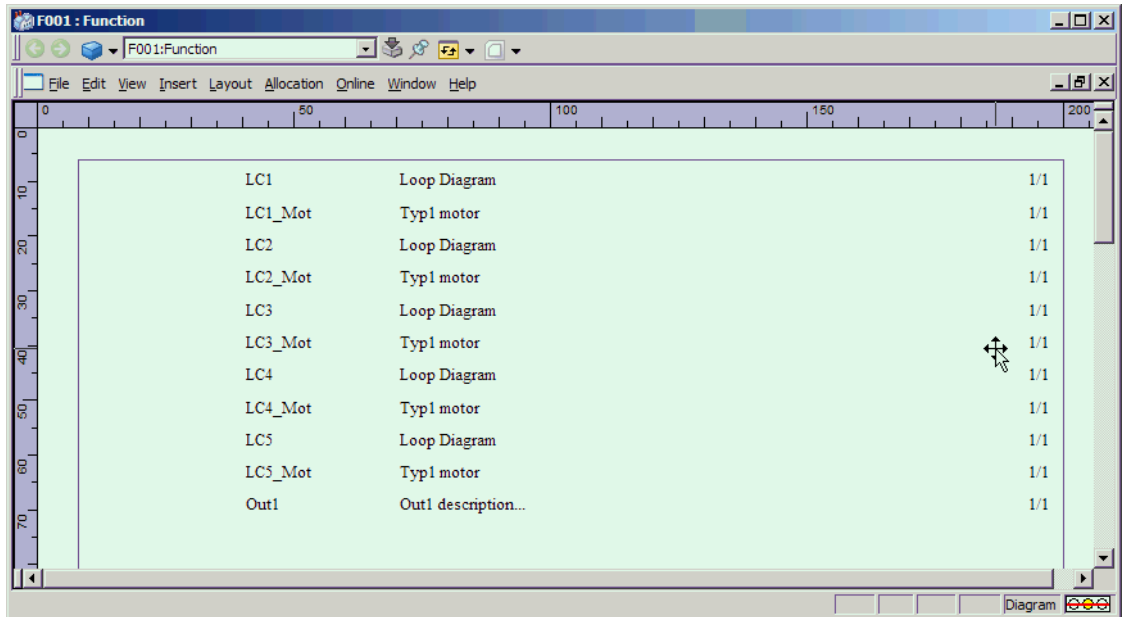

Figure 154. Complete Contents Diagram for Folder/Group F001
- Complete contents create detailed contents for each diagram and all its pages including functional designation (if any), name, description, page comment and page number. See Figure 154.
- On OK, the contents diagram gets created according to the selected template and settings, see Figure 154. The diagrams get listed according to their level in alphabetical order. In this example, the contents diagram lists the diagram name, its description, and page numbers.